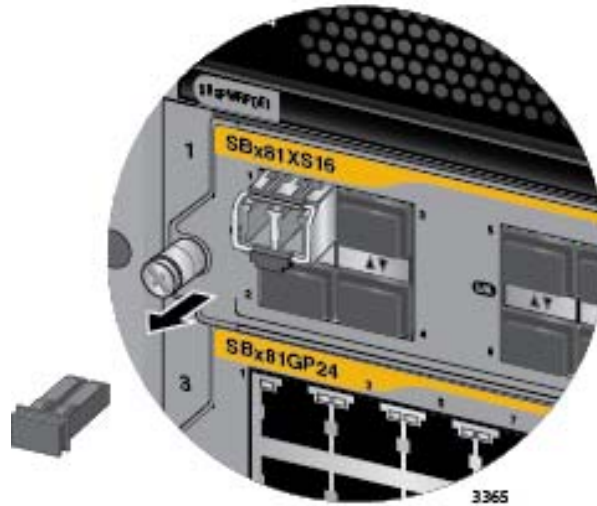

Figure 101. Removing the Dust Cover from a Transceiver
3. Remove the protective cover from the + transceiver. Refer to Figure 101 on page 175.